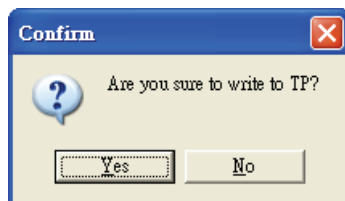

Figure 1-115
Step 2. After the application program is compiled, enter the system menu of TP series, and choose “1. D/L AP TP04G  PC”. Then, the Confirm dialog box will display (Figure 1-115). Press **Yes** button to confirm the operation of Write to TP, and the system will start to download the application program. The downloading status (percentage of downloading) will also show during download process (Figure 1-116). When downloading is completed, a Transmission finished dialog box will appear, and the users can press **OK** button to acknowledge that the transmission is completed (Figure 1-117).